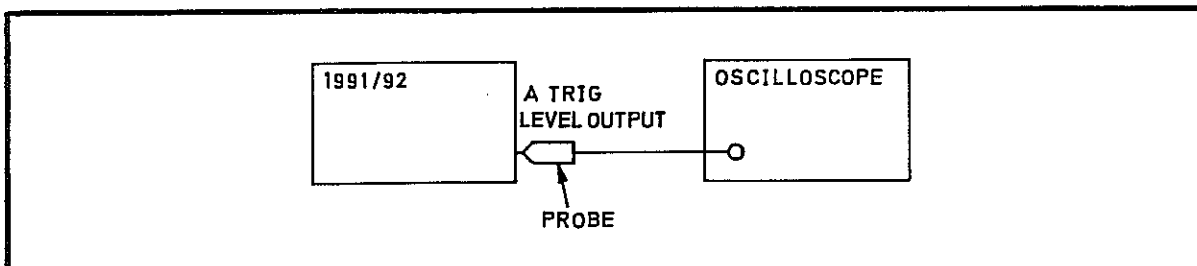
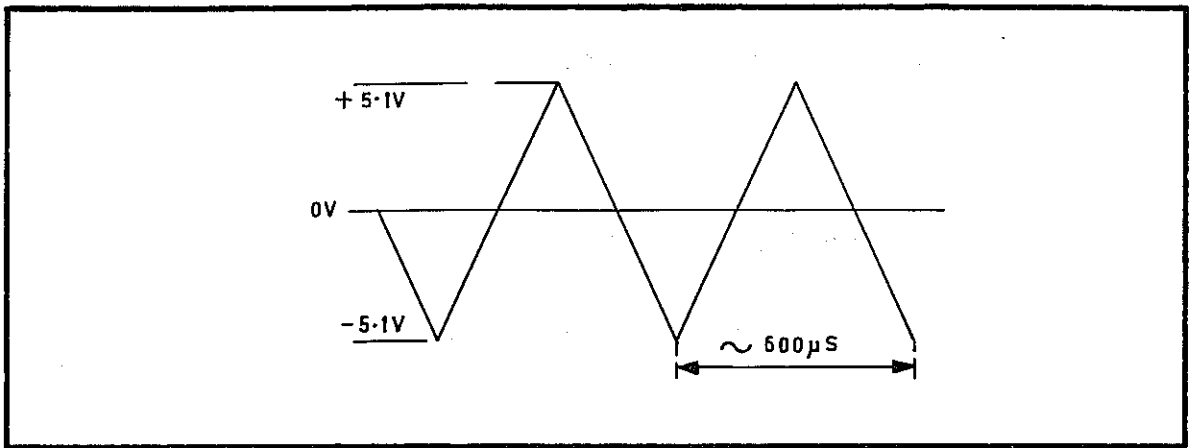

Fig 7.23 Connections for Trigger Level PVP
Fig 7.24 Trigger level Waveform
- (1) Connect the test equipment as shown in Fig 7.23.
- (2) Select DC coupling of the oscilloscope input.
- (3) Set the oscilloscope to monitor a waveform of approximately 12 V peak-to-peak with a frequency of approximately 2 Hz.
- (4) Select CHECK.
- (5) Press 7 6 SHIFT STORE SF SHIFT SF
- (6) Verify that the channel A and B TRIG indicators are flashing, and that the displayed waveform is as shown in Fig 7.24.
- (7) Transfer the oscilloscope probe to the channel B TRIG LEVEL OUTPUT pin and verify that the same waveform is displayed.
- (8) Press 7 0 SHIFT STORE SF SHIFT SF
- (9) Disconnect the test equipment.